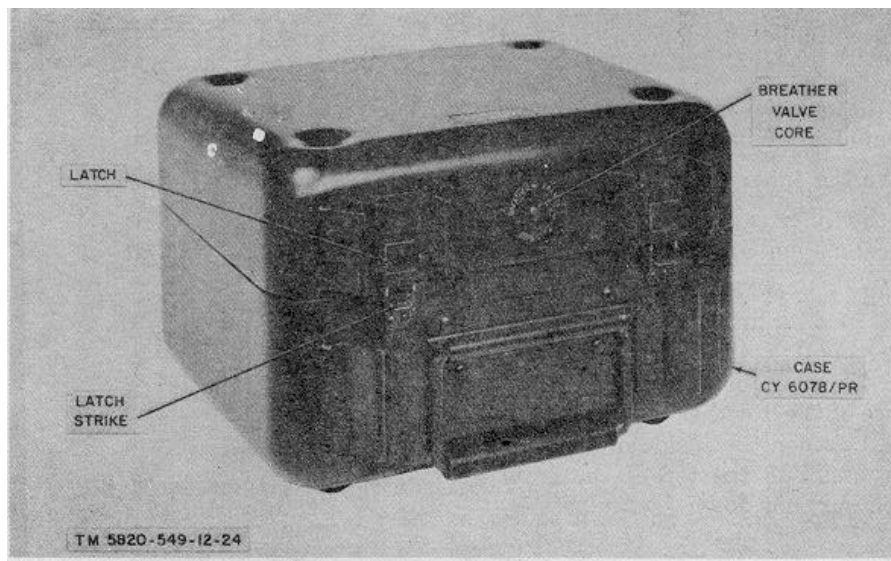

Figure 2-2. Indicator, Channel Alignment ID-1189/PR, case closed.
(2) Remove the nails from the top and one side of the wooden packing box with a nailpuller. Remove the top and side.
(3) Open the outer carton and the moisture-vaporproof bag.
(4) Remove the inner carton.
(5) Open the inner carton and remove the technical manual and the ID-1189/PR.
c. *Opening Case CY-6078/PR.* Place the ID1189/PR (fig. 2-2) on a firm, flat surface. The top of the case contains dimples. The bottom may be identified by four pressed-out feet. Depress the red core of the breather valve to equalize the pressure between the inside of the case and the outside air. Pull the top of the front and rear latches out and down as far as they